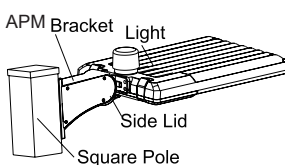

Figure 12
Step 2: Put the wiring connections into the junction box, then cover the junction box. Fig. 12)